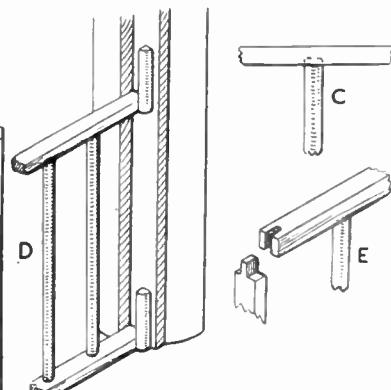

Fig. 2—Fixing socket and joints
This latter rod is now carefully sharpened with a file to a pencil point at each end, as shown in Fig. 2. The other
These holes are of the same diameter as the rod itself and should go to such a depth into the wood that the point of the wood drill just fails to show on the opposite side (see Fig. 2 C). Perhaps it would be as well to practice on a spare bit of wood before boring a hole in one of the pieces you are going to use.
Cut the beading for sockets into 6in. lengths, then with thin panel pins of about 1in. length, tack the beading as shown in Fig. 2 (D). The advantage of having short pieces of the length given is that the gate can be disengaged after raising only 6ins. A longer strip of beading running up to double the height